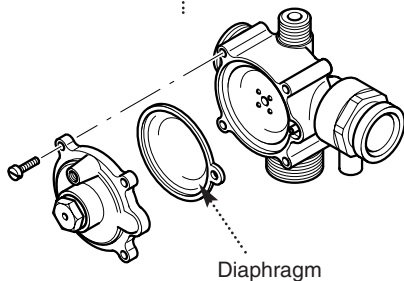

Fig. 64
12.21 Central Heating Differential Valve Microswitch (Fig. 64)